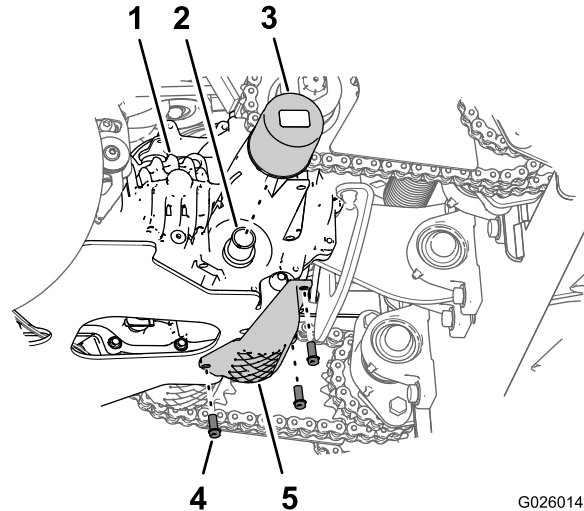

Figure 59
- Remove the 3 washer-head bolts (1/4 x 3/4 inch) that secure the filter guard to the transmission, and remove the guard (Figure 59).
- Clean the around the transmission filter (Figure 59).
- Rotate the filter counterclockwise and remove the filter (Figure 59).
- Install the filter by rotating it clockwise onto the filter adapter until the seal contacts the base of the adapter, then tighten the filter an additional 3/4 to 1 turn (Figure 59).
- Install the filter guard with the 3 washer-head bolts (1/4 x 3/4 inch) that you removed in step 3 (Figure 59), and tighten the bolts to 1117 to 1243 N-cm (90 to 110 lb-in).